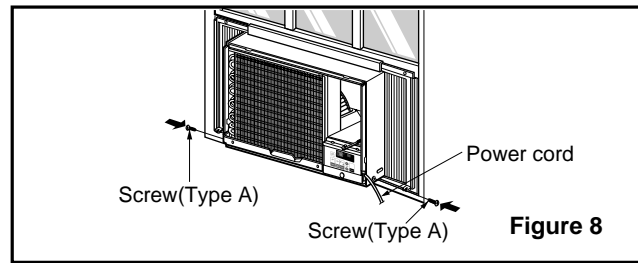

Figure 8
10. Slide the unit into the cabinet.(See Fig. 8)